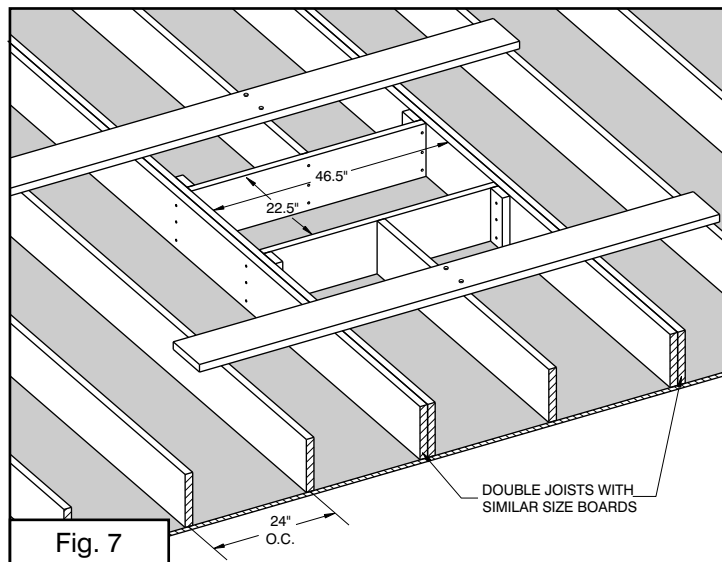

Fig. 7
**A transverse** opening with joists 16" or 24" OC will require more joists to be cut (Fig. 7 & Fig. 8).
Please consult a professional to evaluate the strength ceiling construction and determine if transverse mounting is advisable and to determine if you will need to double the adjacent joists to compensate for the joist(s) you cut (see Figs. 7 & 8). This will depend on a number of factors, including the size and span of the existing joists, whether or not there are roof trusses involved, and where roof supports are located.